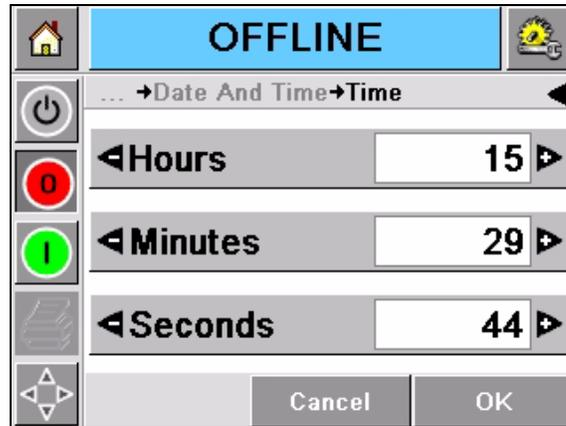

Figure 5-28: Time
- 7 Touch the *Time* icon and the time page appears (Figure 5-28 on page 5-23).